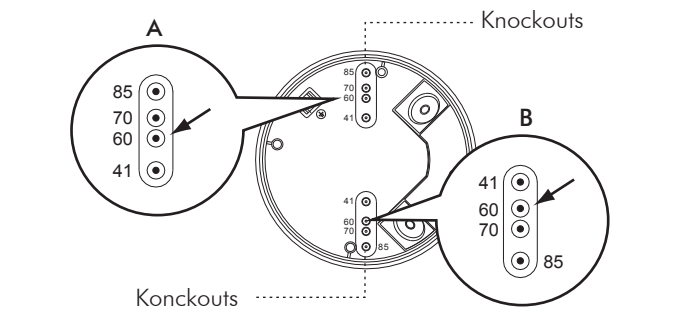

FIG.14-A
- 3.4.3.1 There are 4 pairs of knockouts with various distances from 41mm to 85mm on the junction box JB-41 can be selected for different mounting applications (See FIG.14-A). Select two same figures on both ends for the corresponding distance for fixing (See FIG.14-B).